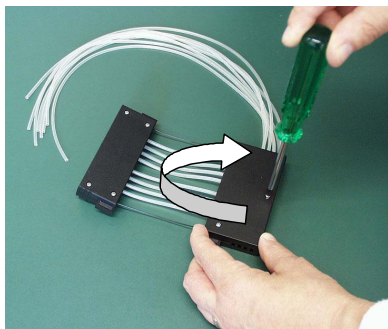

Figure 5-49. Fastening the cover retaining screws
14. Fasten the three cover retaining screws of the upper part of the dispensing cassette, leaving the front screw slightly open (Figure 5-49).